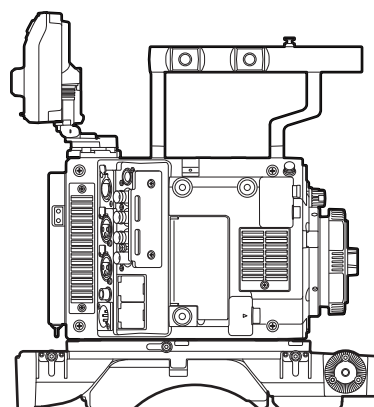

Fig. 4
- 4 Slide the camera forward along the groove in the shoulder mount module from the rear until it clicks. (Fig. 4)**